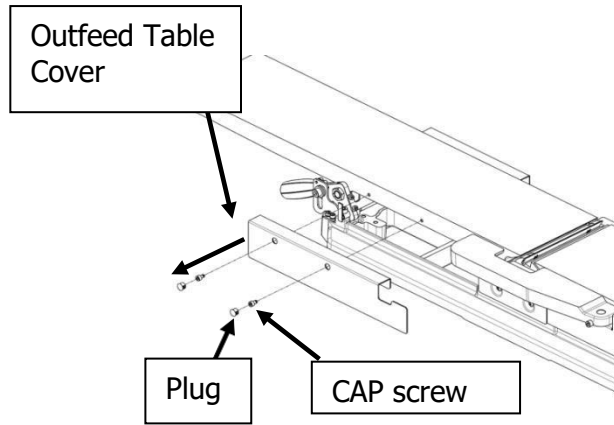

Fig. 30: Cover
STEP 2: Remove the plugs and loosen CAPscrews to release and remove outfeed tablecover as in **FIG. 30**.